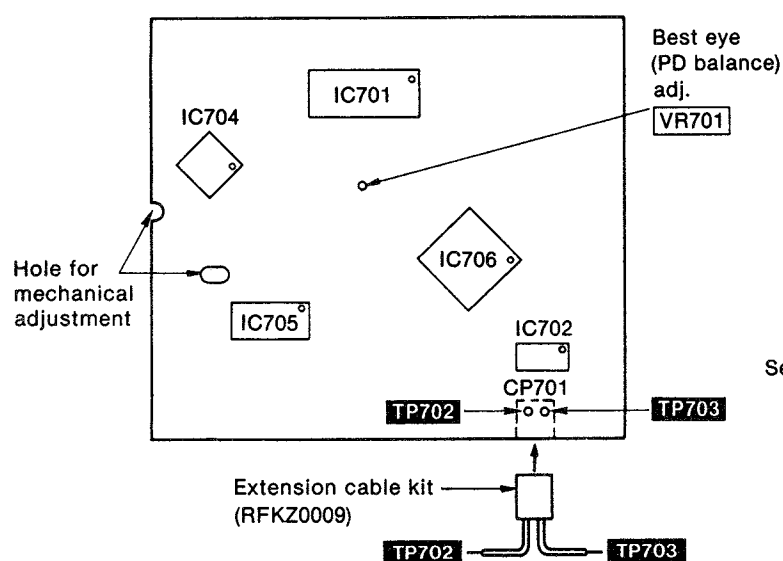

Fig. 1
3. Adjust **VR701** until the vertical fluctuation of RF signal is minimized and the eye pattern is most stretched. (Refer to Fig. 1 on page 25)